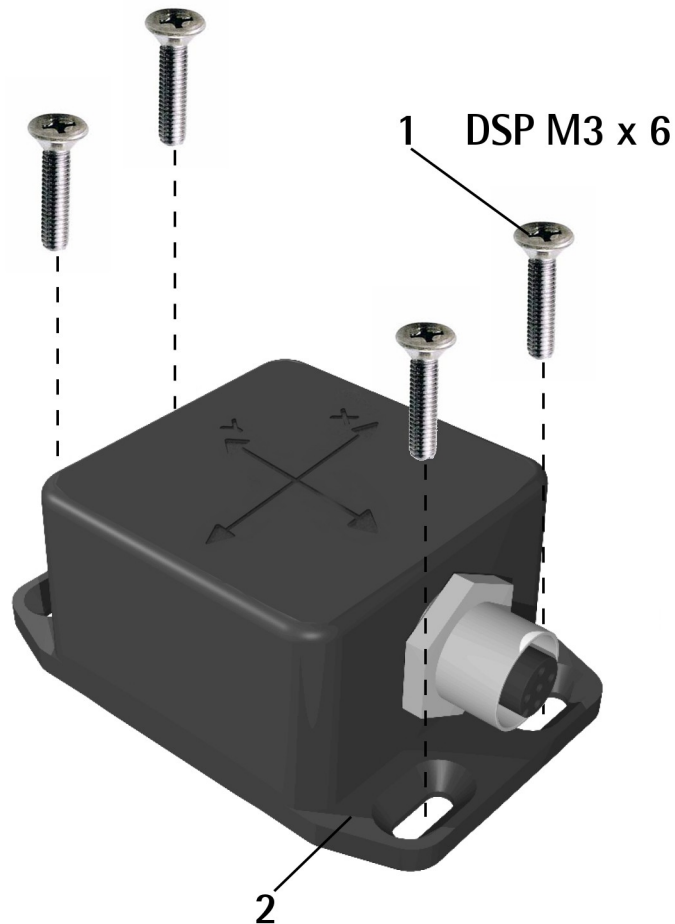

Figure 2 - Installation
3.2 Installation (Figure 2 and Figure 3)
Install the inclinometer as shown in Figure 2 and Figure 3: